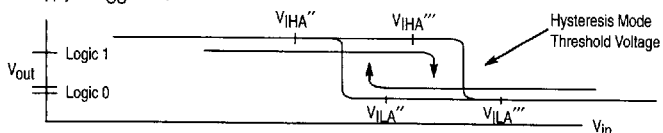

Figure 1. Hysteresis Mode Threshold Voltage
- Output latched to logic high state prior to test. V_{IH}'' , V_{IL}'' are standard logic 1 and logic 0 MTTL threshold voltages. V_{IH}''' , V_{IL}''' , V_{IH}'''' and V_{IL}'''' are logic 1 and logic 0 threshold voltages in the hysteresis mode as shown in Figure 1 on page 3-63.
- Output latched to logic high state prior to test. V_{IHA'}, V_{ILA'} are standard logic 1 and logic 0 MTTL threshold voltages. V_{IHA''}, V_{ILA''}, V_{IHA'''} and V_{ILA'''} are logic 1 and logic 0 threshold voltages in the hysteresis mode as shown in Figure 1 on page 3-63.